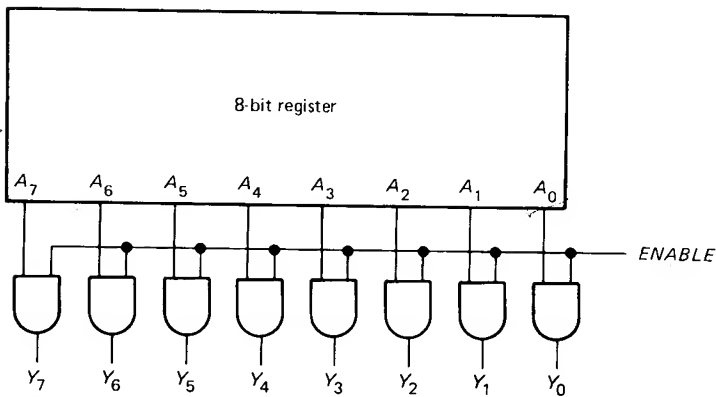

Fig. 2-19
- 2-10. Visualize the register contents of Fig. 2-19 as the word $A_7A_6 \cdots A_0$, and the final output as the word $Y_7Y_6 \cdots Y_0$. What is the output word for each of the following conditions:
- 2-11. The 8-bit register of Fig. 2-19 stores 59_{10} . What is the decimal equivalent of the final output word if $ENABLE = 0$? If $ENABLE = 1$?